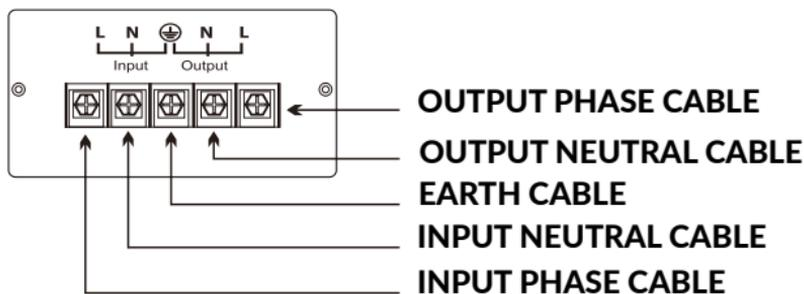

FIGURE 1
**3.3** For Alvis 3000 and 5000 make wiring connection as shown in **Figure 1**.